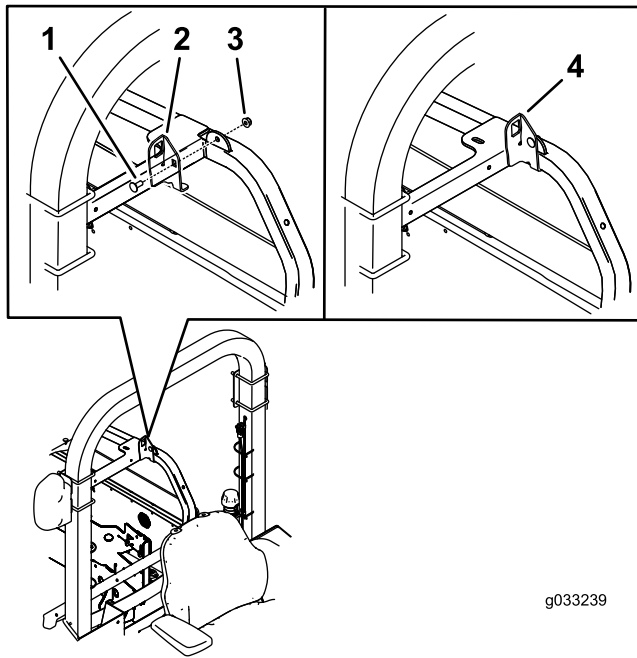

**Figure 1**
3. Remove the locking nut from the latch assembly (Figure 1).
4. Install the locking latch through the hole in the left side of the hood (Figure 1).